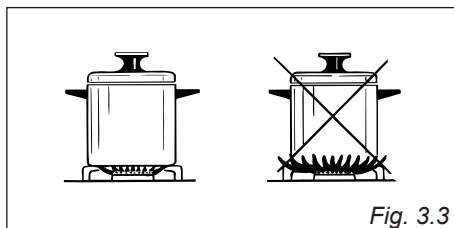

Fig. 3.3
- Connect the wires to the terminal block “B” as shown in the diagram in figure 3.3.